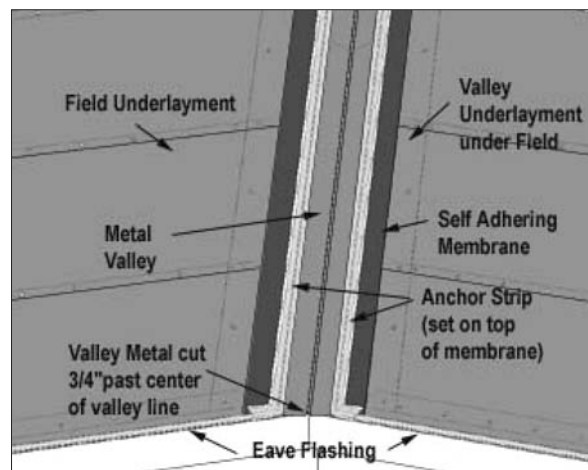

FIGURE 1-23 Metal Valley Construction
1. With the valley metal in place, applying the Anchor Strip in the valley will provide a "hook" to secure the panels as they are cut to fit into the slope of the valley. *See Figure 1-23.*